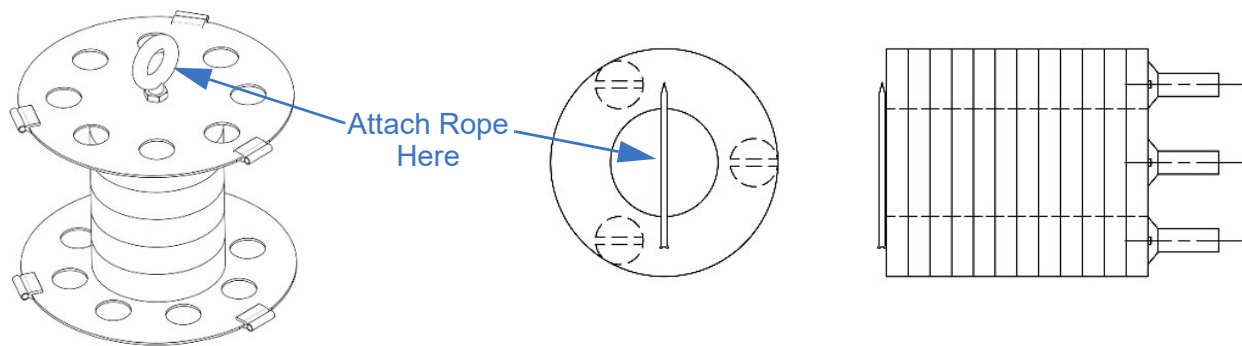

Figure 5-30 Magnet
1. Tie one end of a piece of rope or wire to the top of the magnet through the eyebolt (Figure 5-30).